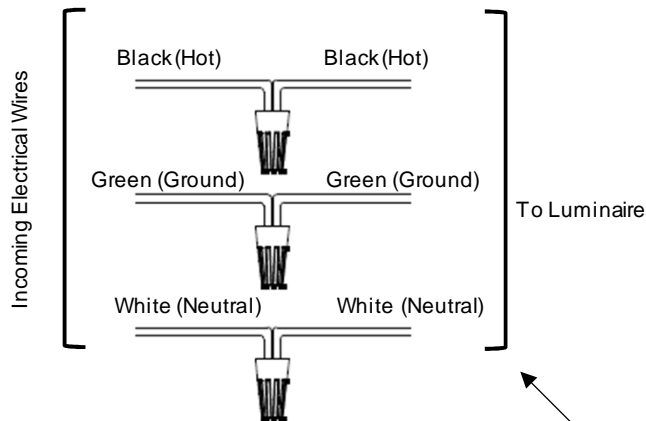

Figure 4
7. To make electrical connections open an adjacent space in the ceiling (See Fig. 4).